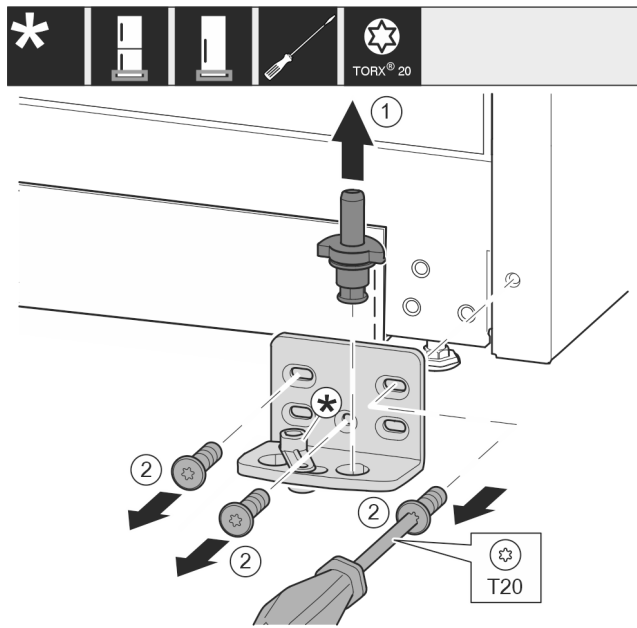

Fig. 16 \*
- Pull the bearing bolt Fig. 16 (1) out upwards completely.\*
- Use screwdriver to unscrew the screws Fig. 16 (2) and remove the swap bearing block.\*